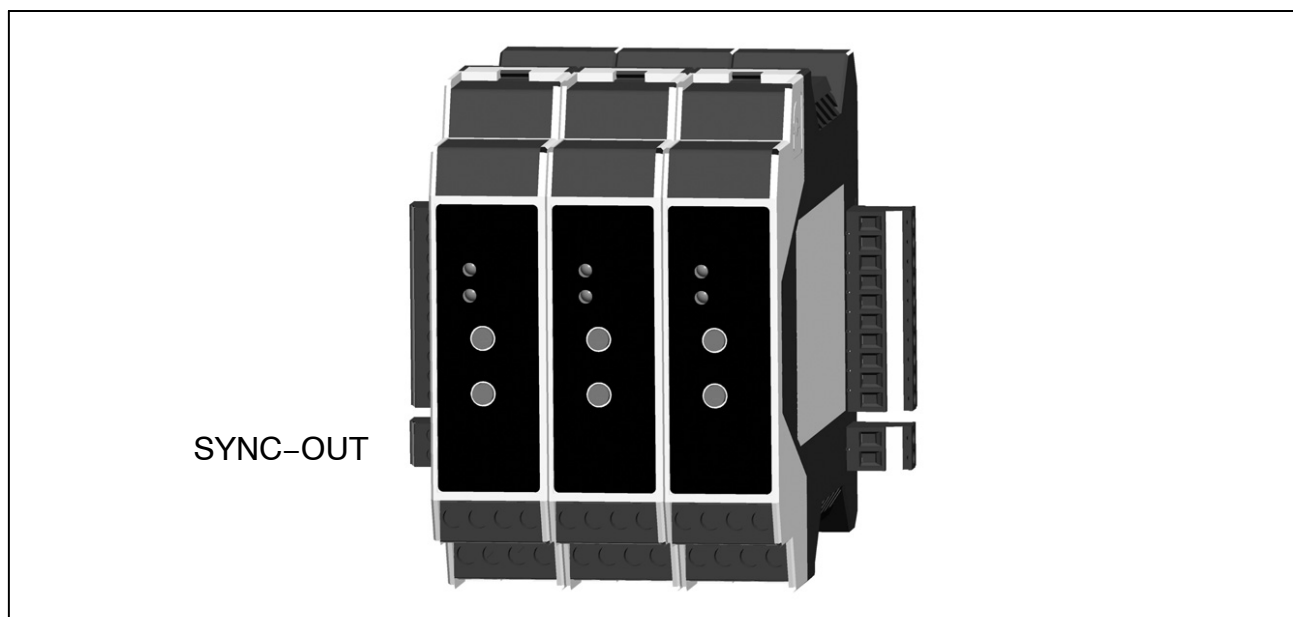
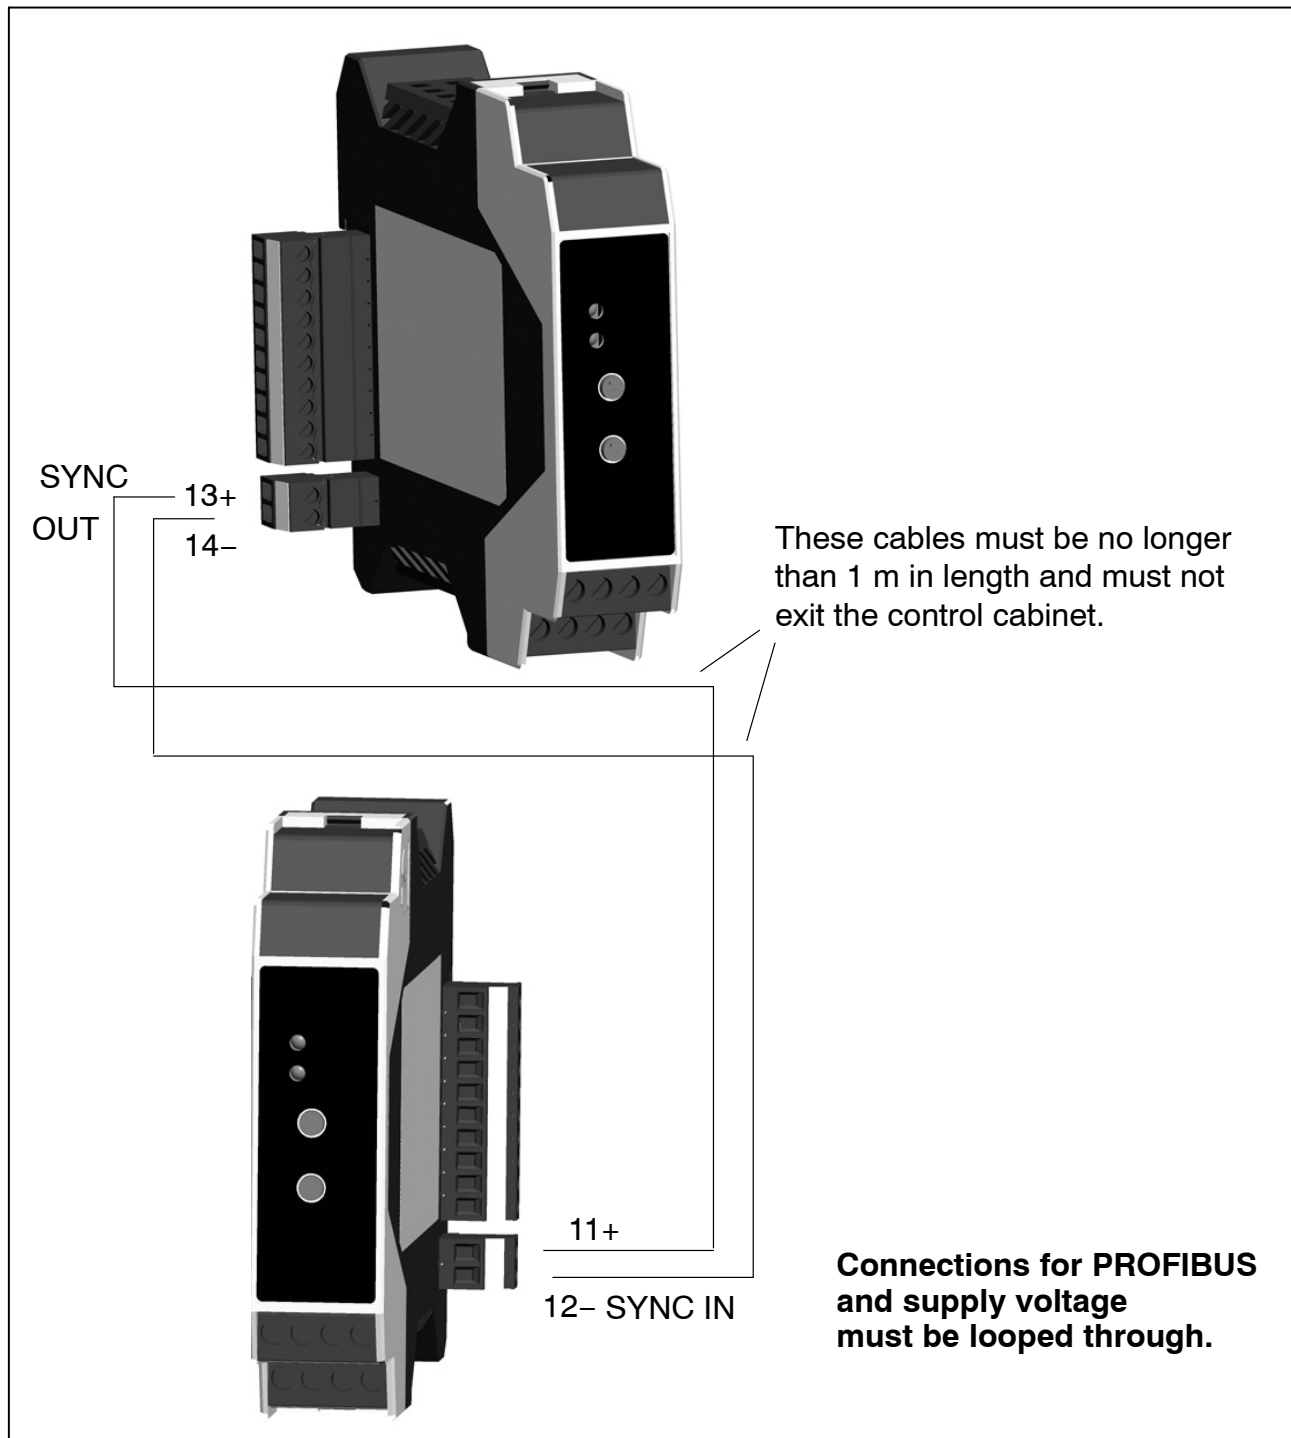

Fig. 3.4: Modules mounted side-by-side
Fig. 4.5: Mounting at several levels (here: DF30DP)
- When mounting at several levels: mate the SYNC-OUT connector to module 3 (see Fig. 3.4 and Fig. 4.5) and connect to SYNC-IN of the first module of the next level
The first device (starting from the right) is used as the master when synchronizing. All the subsequent modules are automatically set as slaves and work at the carrier frequency of the first module. Should the connection between the modules be interrupted, the first module after the interruption is automatically set as the master and synchronizes the subsequent modules. If the modules are divided among several rails, use the 2-pin synchronization connectors, 1-digiCLIP-ST; (see Fig. 4.5).